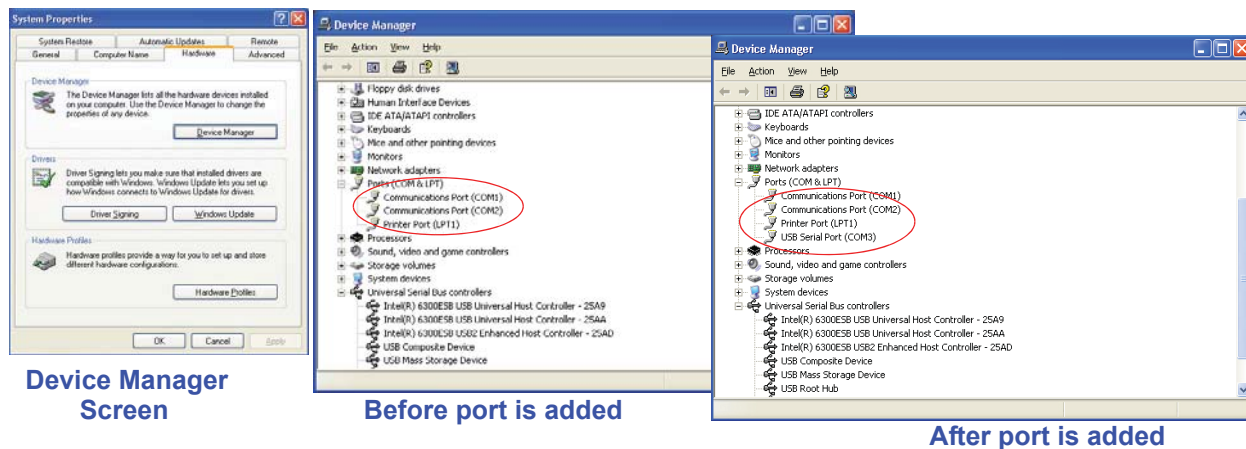

Figure 5-3 Example Device Manager Screens
6. Identify the computer port that has been added to the PC by using the “Properties” of My Computer and examining the COM ports. USB ports are generally added to the bottom of the list and named USB COM port 'x'. Refer to Figure 5-3 for screen examples (Windows XP).